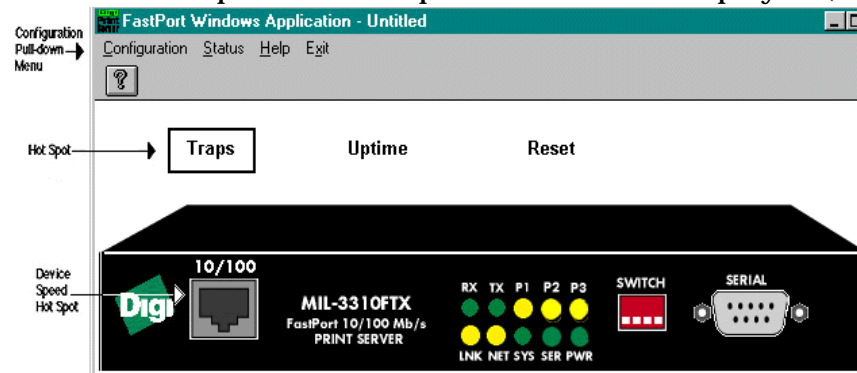

Figure 10-2. MIL-3300FTX FastPort Print Server
3. A graphic displaying the device’s front and rear panel appears (Figure 10-2). This graphic is the same as displayed during Discovery.
Once the application is launched, a graphical illustration representing the front and rear panels of the specific FastPort is displayed (Figure 10-2).
There are “Hot Spots” on the graphical illustration of FastPort (Figure 10-2), that can be clicked on to obtain information. To find a hot spot, move the mouse around the screen. A box outlining the hot spot appears. The following is a description of each hot spot:
A Digi logo appears on the graphic (Figure 10-2). When this logo is clicked on, FastPort specifications appear. Reset **Name**, **Location**, and **Contact**. Press **set** after you make changes.